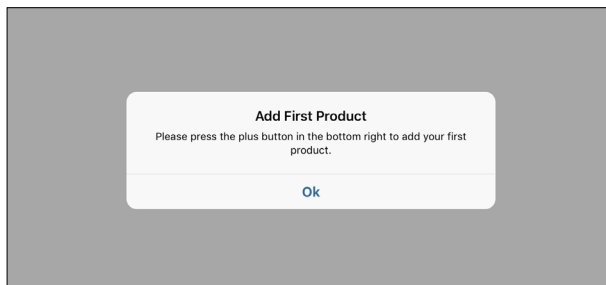

Figure 20 Add first product prompt
1. Select **Ok** to begin the process of adding the first new product (Figure 20).